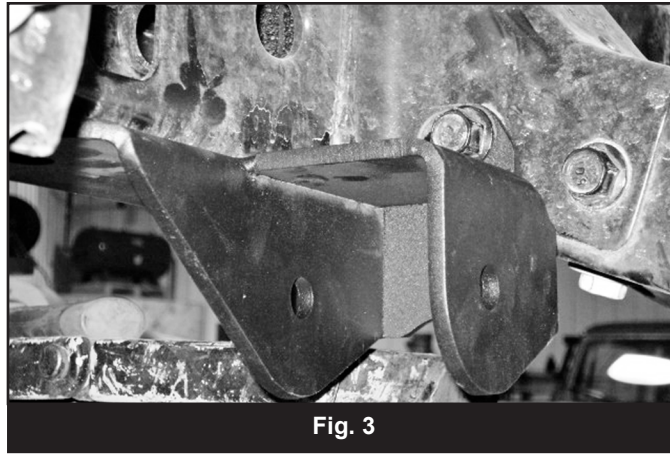

Fig. 3
5. Position the provided front LCA mount (01983-driv, 01984-pass) up to the frame rail and against the front face of the transmission crossmember (Fig 3). Loosely fasten the bracket to the frame with the OE skid plate bolt and to the crossmember with the OE crossmember hardware.